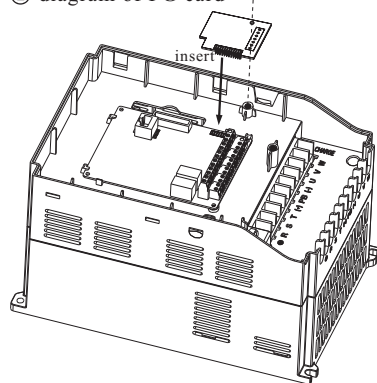
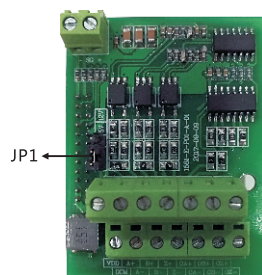

Figure 1 Install of PG extension card
Figure 2 PG card
- ①: make sure the AC drive is power off completely.
- ②: insert PG card and extension card of inverter.
- ③: fix by screw as Figure 1
2) The appearance, terminal block and function description are shown in figure 1, figure 2 and table 1.